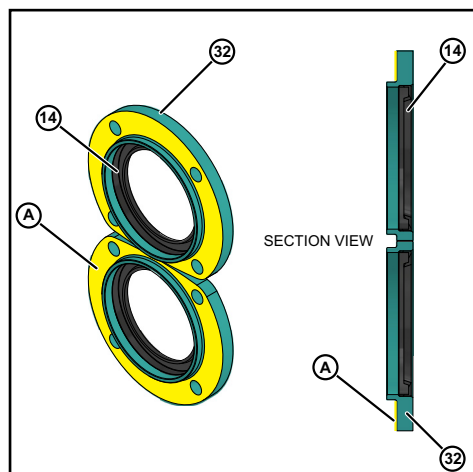

Figure 62 - Install Bearing Retainer
17. Lightly coat the Grease lip seal (14) outer diameter with Red Loctite® 2760. Installing the lip seal (14) into the bearing retainer (32) with the compression spring facing the inside of the pump.
18. Lubricate the inside lips of lip seal (14) with bearing grease and install the grease seals (14) in the bearing retainers (32) (compression spring on inside).
19. Coat the retainer flanges with silicone sealant (Figure 62, item A). (Gore-Tex® sealing tape can be used on silicone free models.) The grease seal (item 14) will be flush with the front of the bearing retainer. On 030 models, the grease seal will be against the step on the inside diameter of the retainer.